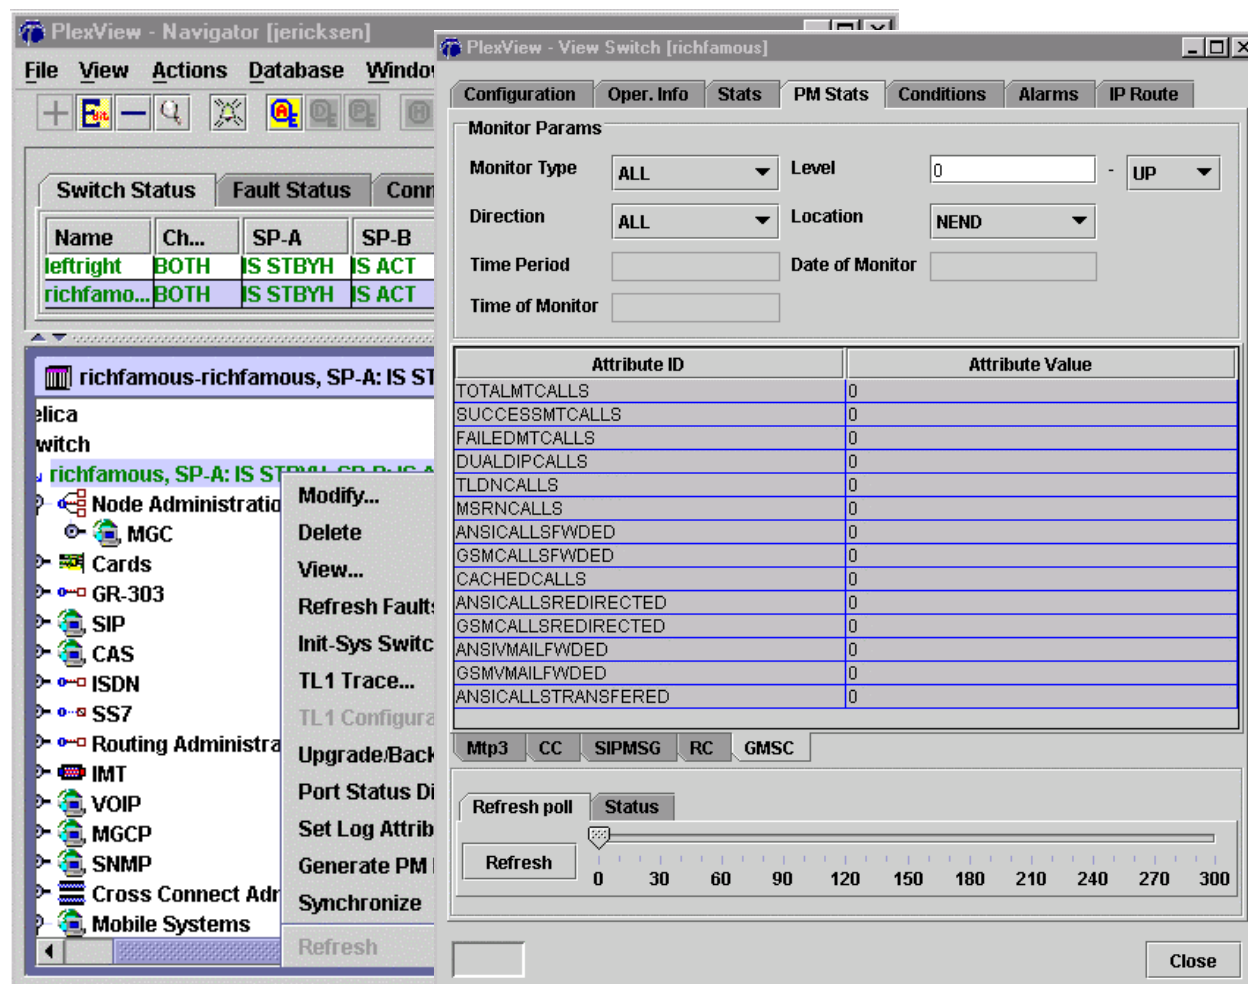

Figure 1. Performance Monitoring of GMSC
4. Retrieve current and historical performance data for T1 ports. Double-click *Switch* in the top pane, then right click the *Switch name* in the main pane. Select *View*, click the *PM Stats* tab at the top and then *GMSC* near the bottom. Click *Refresh* to update the data. See Figure 1.